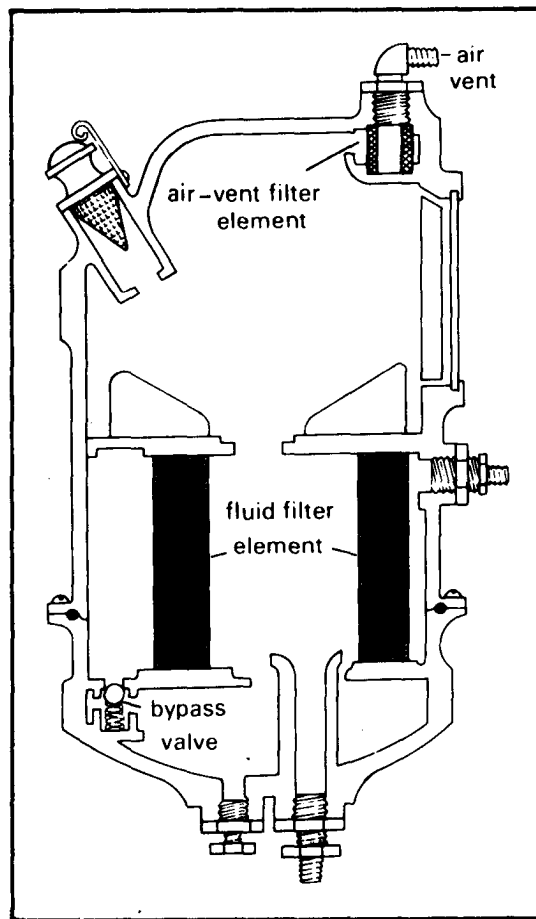

Figure 4-4. Reservoir with filter elements.
**Filter Elements.** Filter elements filter the air before it enters the reservoir or the fluid before it leaves the reservoir. An air-vent filter element is located in the upper part of the reservoir above the fluid level. A fluid filter element is located at or near the bottom of the reservoir. Fluid returning to the reservoir surrounds the filter element and flows through the wall of the element. This leaves any fluid contaminant on the outside of the element. The fluid filter elements commonly used in aircraft reservoirs are made of treated cellulose formed into accordion-like pleats. This construction exposes the fluid to the maximum amount of filter surface within a given space. Reservoirs having filter elements have a bypass valve to ensure that the pump will not be without fluid even if the filter element becomes clogged. This valve is normally held closed by a spring; it would be opened by the stronger partial vacuum if the element became badly clogged. Figure 4-4 shows a reservoir with all the filter elements.